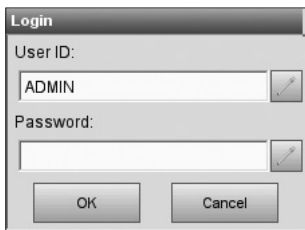

Fig. 3-52 Login
3. You will be asked to enter User ID and Password (factory setting ADMIN/ADMIN) (Fig. 3-52).